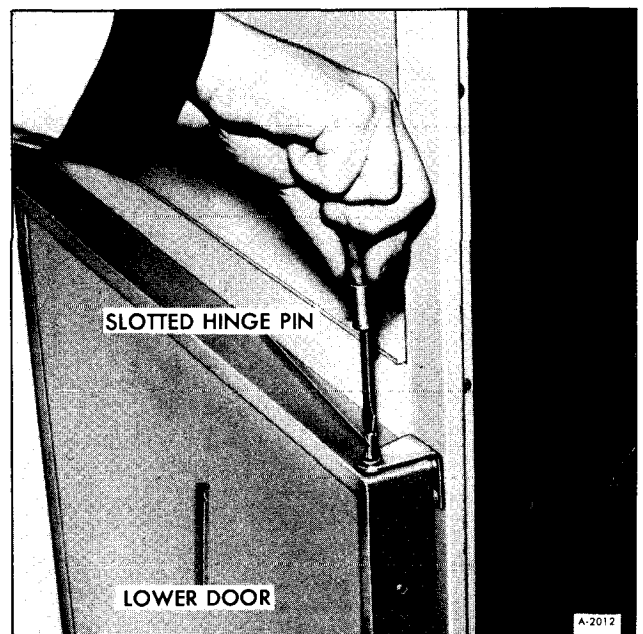

Figure 9-Removing Center Hinge Pin
3. Top of hinge pin is slotted to accept a screw driver. Remove this hinge pin (figure 9).
2. Install center hinge pin (figure 9).